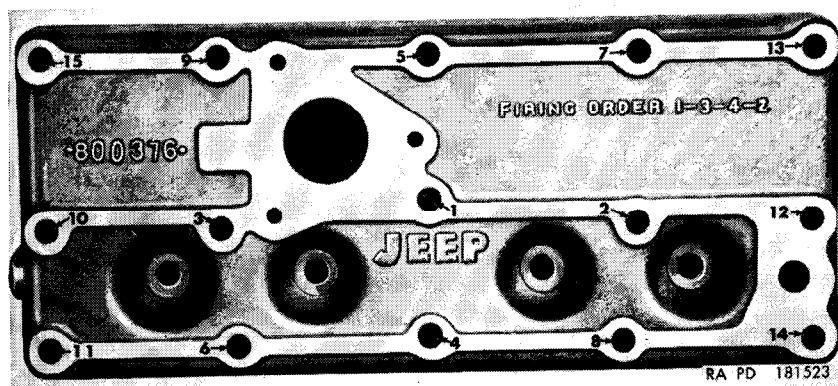

Figure 25. Cylinder-head nut tightening sequence.
- (1) Using cylinder-head studs 10 and 12 (fig. 25) as pilot studs for correct positioning, place a new cylinder-head gasket over the cylinder head studs. Position cylinder head on top of gasket being careful not to damage the threads on the studs.
- (2) Start eight $\frac{7}{16}$ -inch cylinder-head stud nuts on studs 3, 4, 6, 8, 11, 12, 13, and 14 (fig. 25) and screw the nuts on fingertight.
- (3) Place the mounting bracket (on engine) (K), with oil filter assembly over cylinder-head studs 9, 10, and 15 (fig. 25) and screw nuts on studs fingertight.
- (4) Place the lifting hook (A) over the cylinder-head studs 1, 2, and 7 (fig. 25) and screw $\frac{1}{16}$ -inch nuts on studs fingertight.
- (5) Position the air intake pipe with vent valve and bracket assembly (B) in the vehicle. Slide the control valve hose (H) onto the hose connection on the crankcase oil filler pipe assembly (S) and place the air intake pipe bracket (R) over the No. 5 stud (fig. 25) and screw $\frac{1}{16}$ -inch nut on stud fingertight. Tighten the hose clamp screw (J) securing the control valve hose (H) to the filler pipe. Slide the air intake pipe hose onto the carburetor and the air cleaner. Secure the hose clamp screws (G, fig. 23) at each end of the pipe assembly.
- (7) Tighten all cylinder-head stud nuts to torque of 65-75 pound-feet in the sequence shown in figure 25 to secure the cylinder head to the cylinder block and the mounting bracket (on engine), lifting hook, and air intake pipe bracket to the cylinder head.
- (8) Install the $\frac{5}{16} \times \frac{5}{8}$ flat washer screw (L) through the crankcase oil filler pipe support bracket into the mounting bracket (on engine) (K) and tighten.
- (9) Clean, adjust, and install the spark plugs and connect the spark plug cables (par. 145). Connect the water temperature sending unit cable (N) by pushing the connector plug on the end of the cable into the sending unit receptacle and turning the connector clockwise to secure it to the sending unit.
nut No. 2 (fig. 25). Screw speed nut (E, fig. 23) onto the stud to secure the clip. Screw nuts at both ends of the line into fittings. Position the vent line (C, fig. 23) between the carburetor assembly (J, fig. 23) and the air intake pipe with vent valve and bracket assembly (B, fig. 23) and screw the nuts at each end of the line into the fittings.